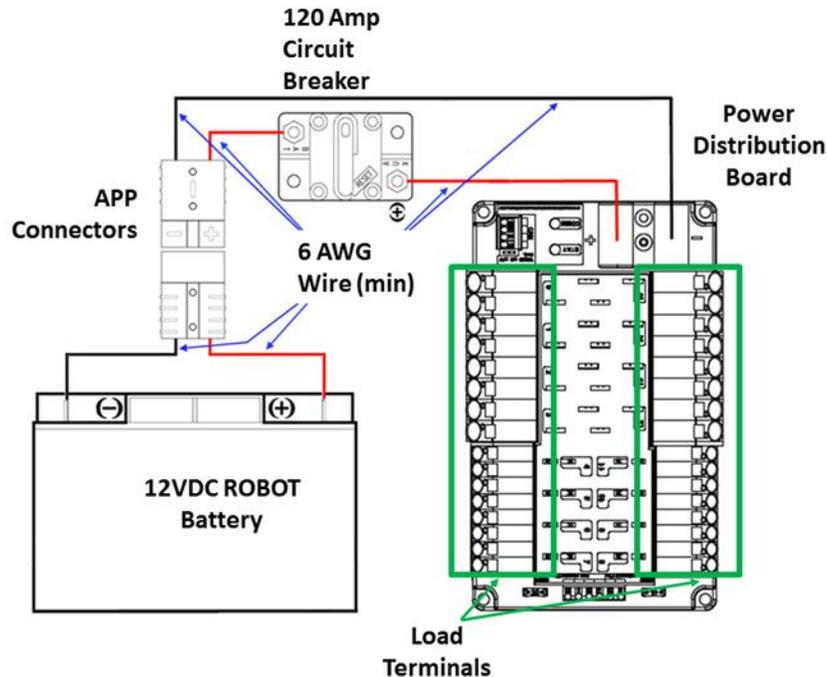

Figure 9-9 Electrical connection diagram
- R40.** The one (1) ROBOT battery, a single pair of Anderson Power Products (or APP) 2-pole SB type connectors, the one (1) main 120-amp (120A) surface mount circuit breaker (Cooper Bussman P/N: CB185-120, CB185F-120, CB285-120), and the one (1) CTR Electronics Power Distribution Panel (PDP, P/N: am-2856, 217-4244, 14-806880) shall be connected with 6 AWG (7 SWG or 16 mm²) copper wire or larger, with no additional devices or modifications, as shown in Figure 9-9.
- R41.** All circuits, with the exceptions of those listed in R46 and R48, must connect to, and have power sourced solely by, a single protected 12VDC WAGO connector pair (i.e. the Load Terminals, as shown in Figure 9-9) of the one (1) CTR Electronics Power Distribution Panel, not the M6 cap screws.